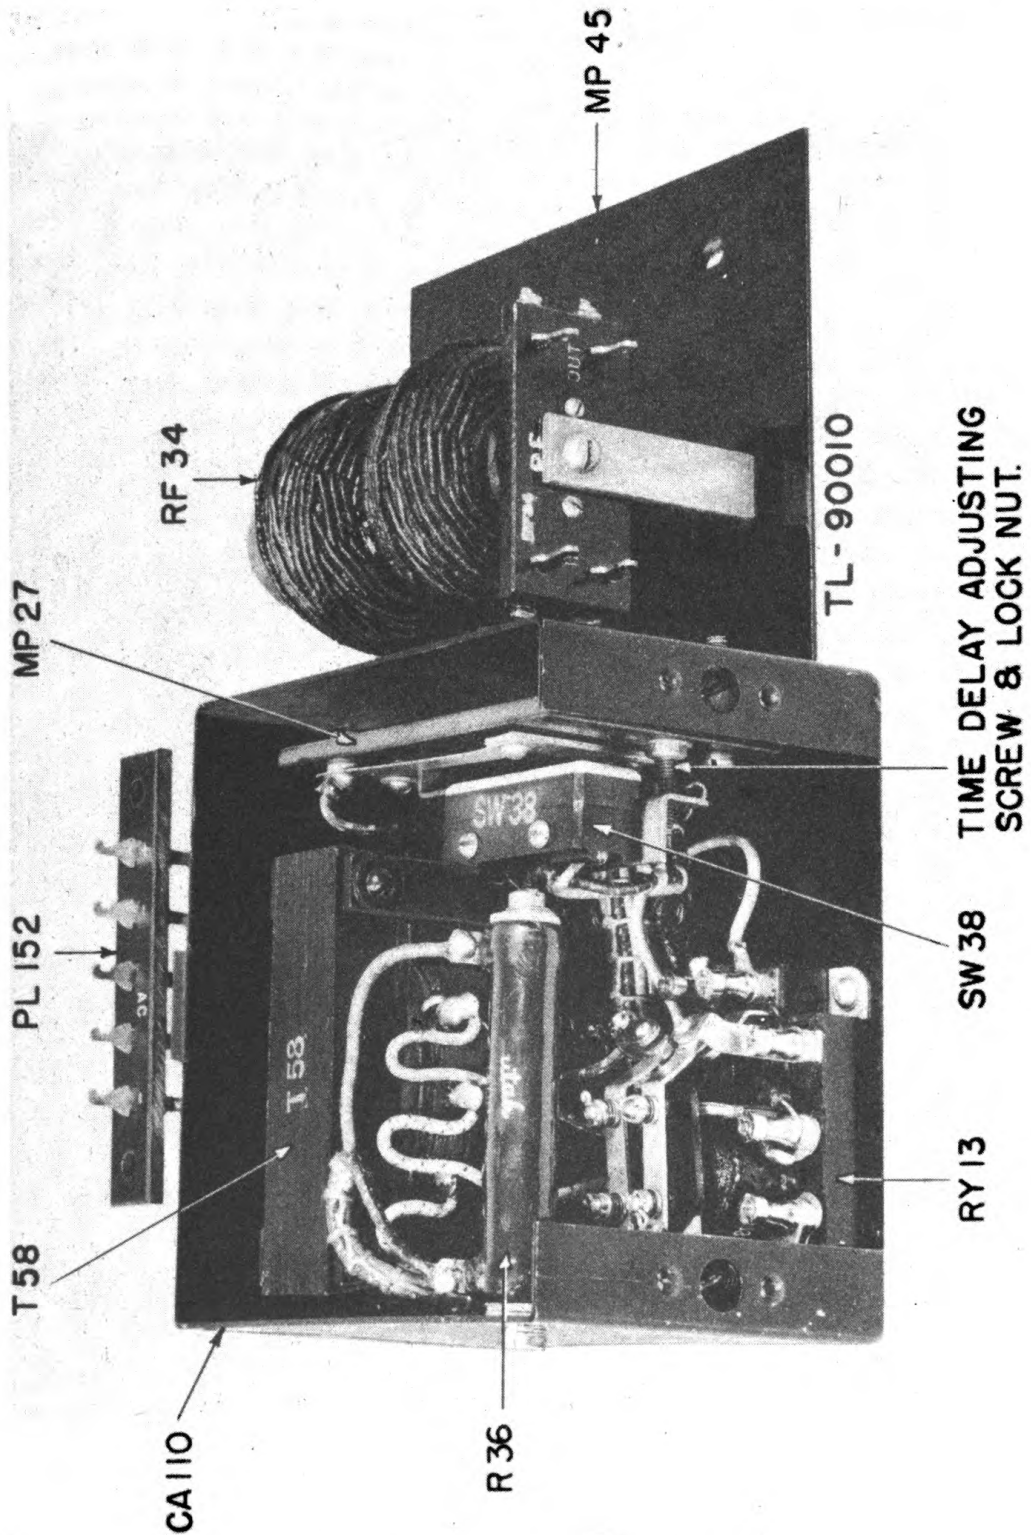

Figure 6. Relay box, subassembly.
(2) The relay box encloses and protects the relay, thermostatic switch, heater transformer, and relay coil resistor, and is mounted above the power section. The plate choke assembly is mounted on a sub-base attached to the relay box (fig. 6).
b. To adjust the setting of the time-delay adjusting screw and locknut on the bimetal switch, first remove the a-c plug from the power outlet, open cabinet door, remove the two rectifier tubes and one spare tube, and remove the relay box cover. Loosen the locknut (fig. 6) and turn adjusting screw *out* to *increase* time delay or *in* to *decrease* time delay. After adjusting, tighten the locknut.